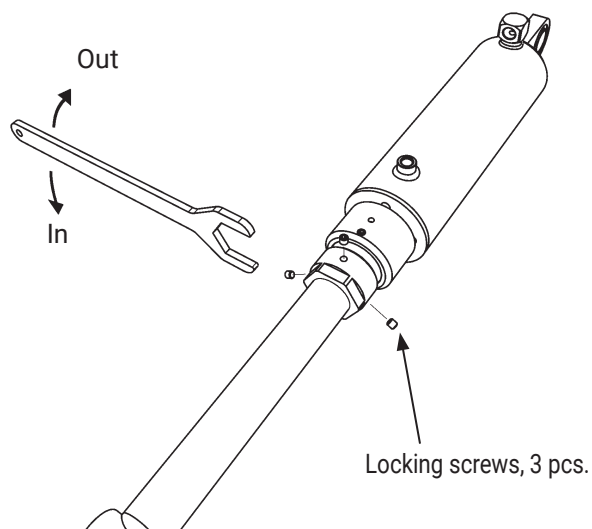

Figure 45. Adjusting the tilt angle
3. Undo the three locking screws on the cylinder mounted on the platform, Figure 45.